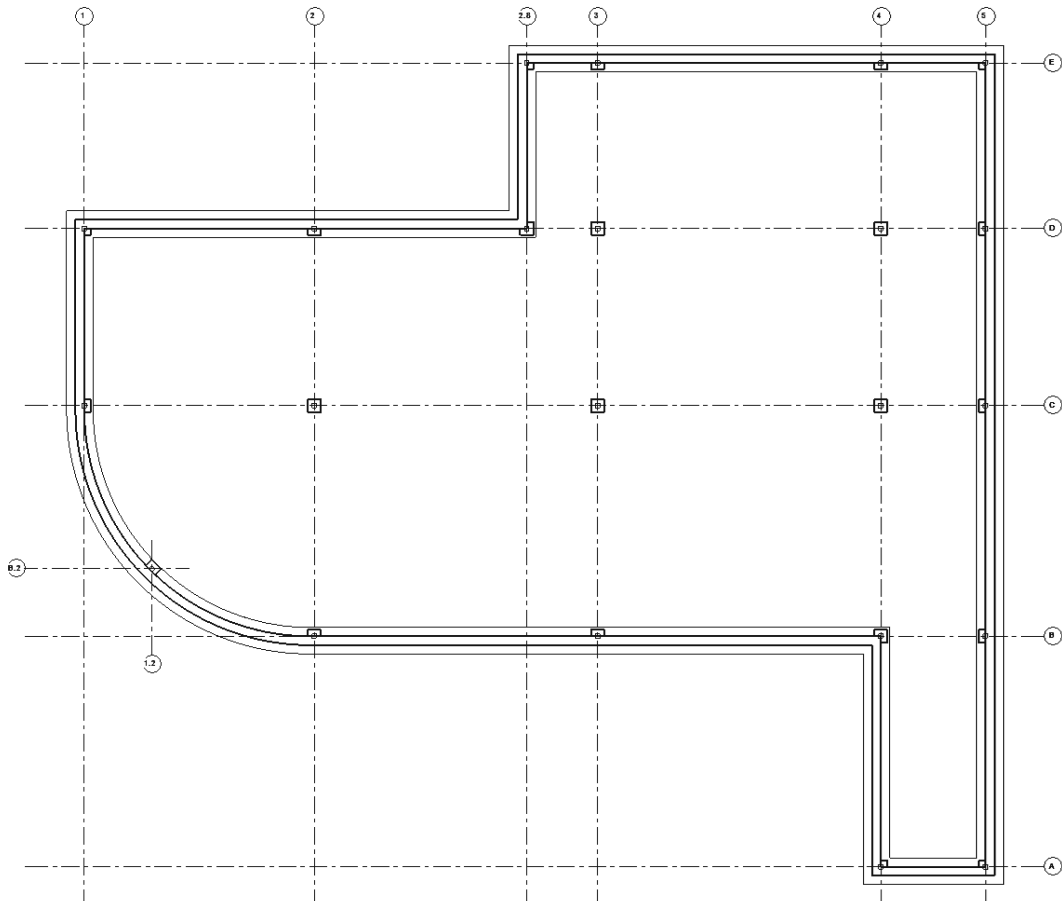

FIGURE 8-5.7 Level 1 slab and foundation plan; footings added
31. Now simply click each foundation wall (Figure 8-5.7).